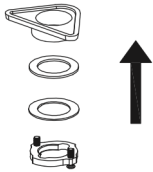

Figure 2
2. If your faucet has a pull-out, connect the pull-out hose to the connector. Depending on your faucet model, it could have a threaded connector, or a snap-on connector. (See Figure 2)